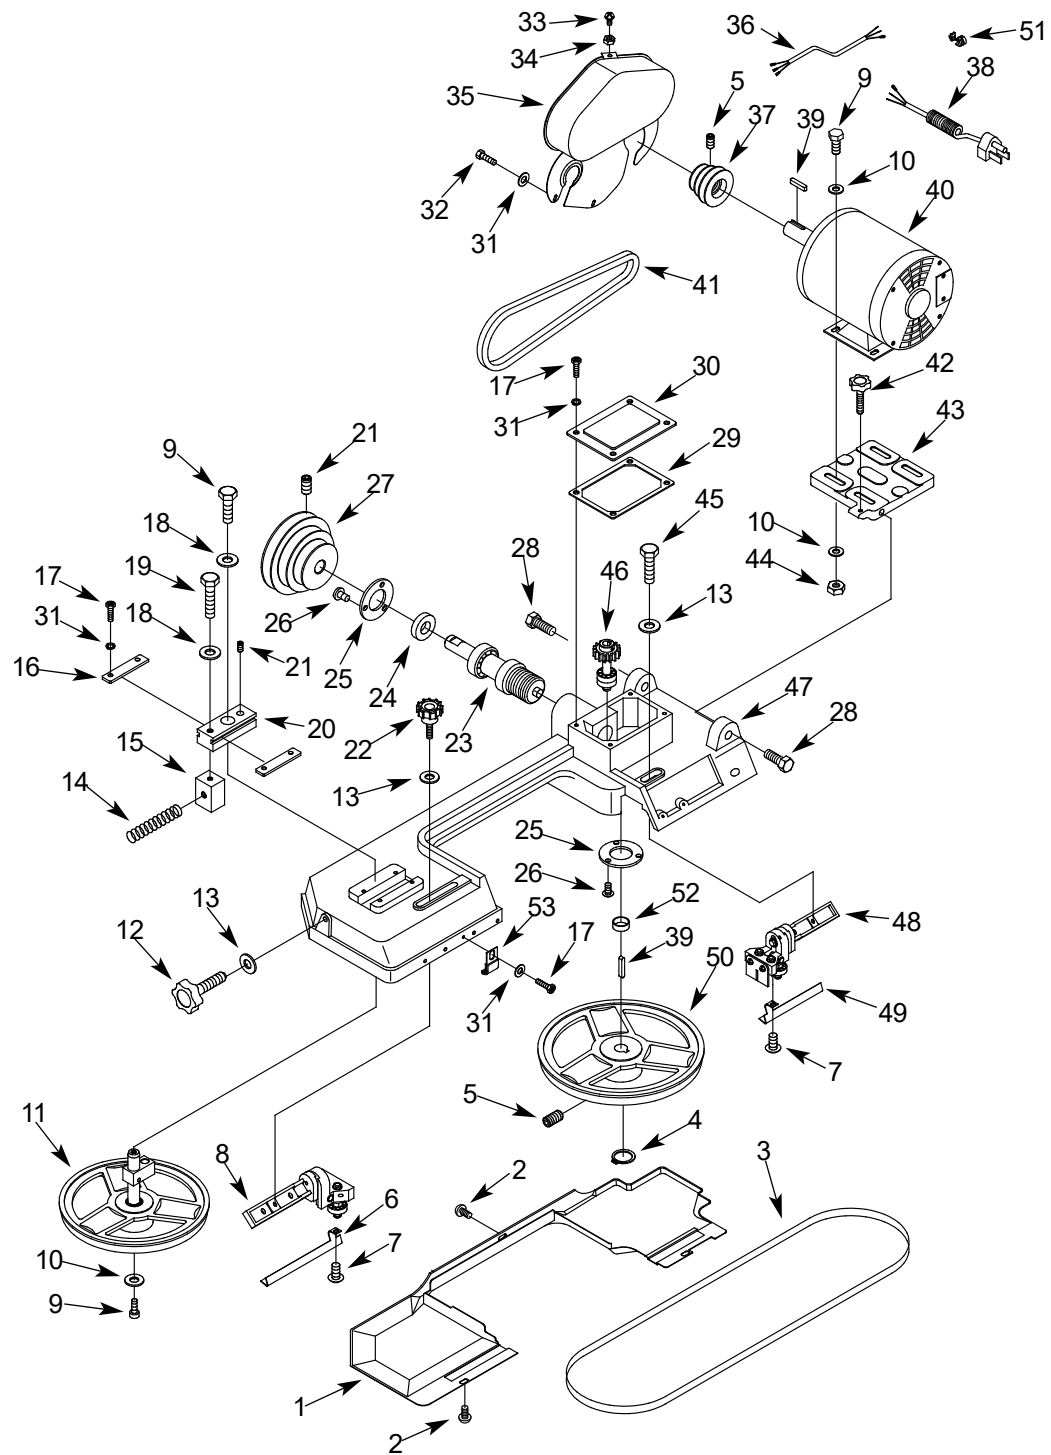

Figure 15 – Repair parts illustration for head
1. Remove gearbox cover (Figure 15, Ref. No. 30) and drain old oil (there is no oil plug)
3. Install new gasket (Figure 15, Ref. No 29).